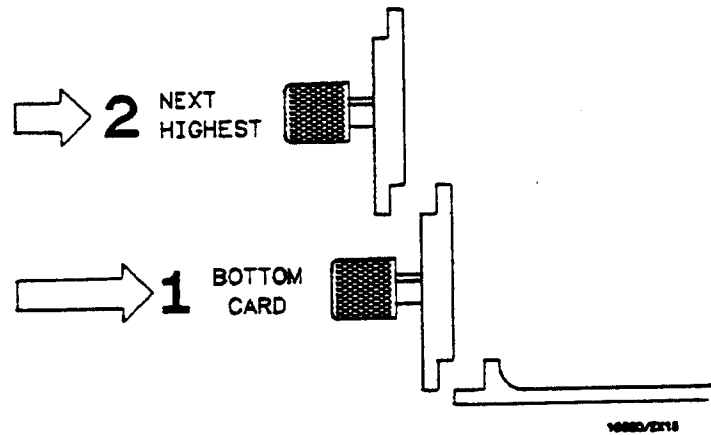

Figure 2-9. Endplate Overlap
- l. Repeat for all cards and filler panels in a bottom to top order. See figure 2-9.